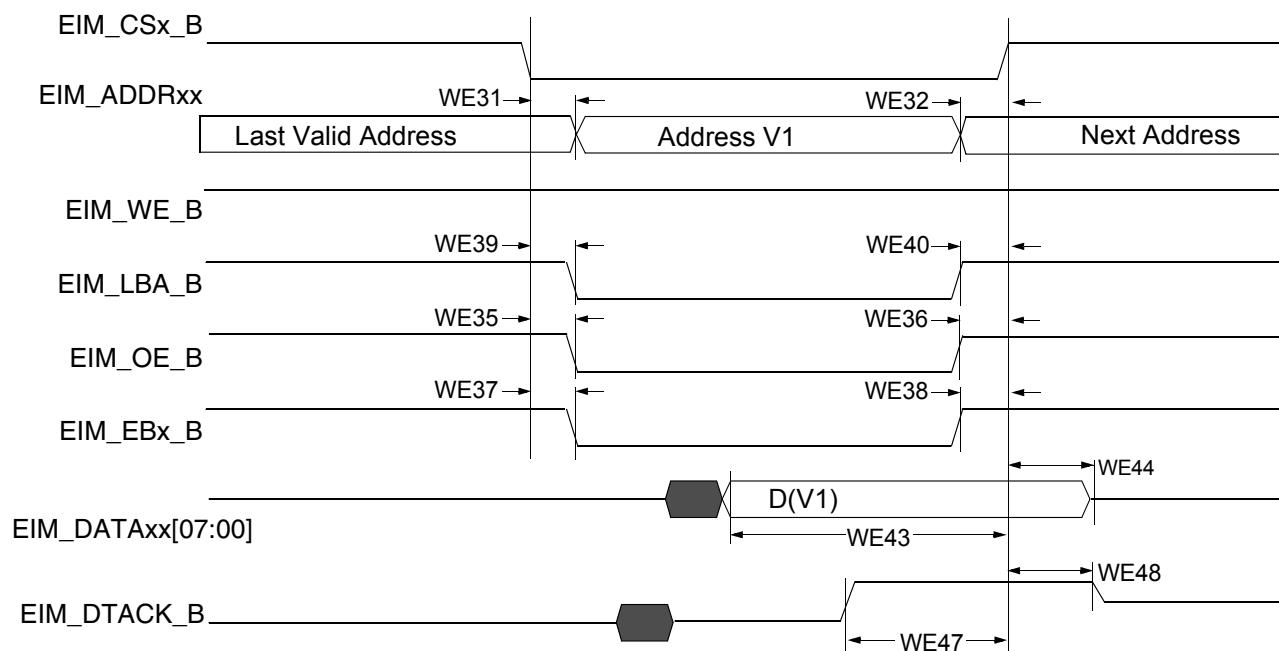

Figure 20. DTACK Mode Read Access (DAP=0)
Figure 16 through Figure 20 and Table 34 provide timing parameters relative to the chip select (CS) state for asynchronous and DTACK EIM accesses with corresponding EIM bit fields and the timing parameters mentioned above.